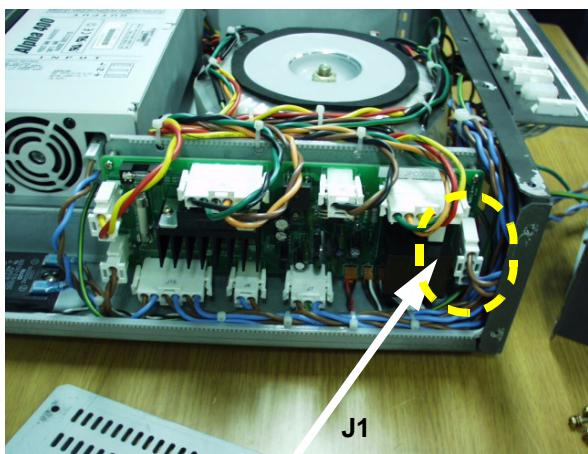

Figure 8-183 Disconnect 1 connector
- 3.) Disconnect one (1) connector (J1) from the JPC Assy. Refer to Figure 8-183.